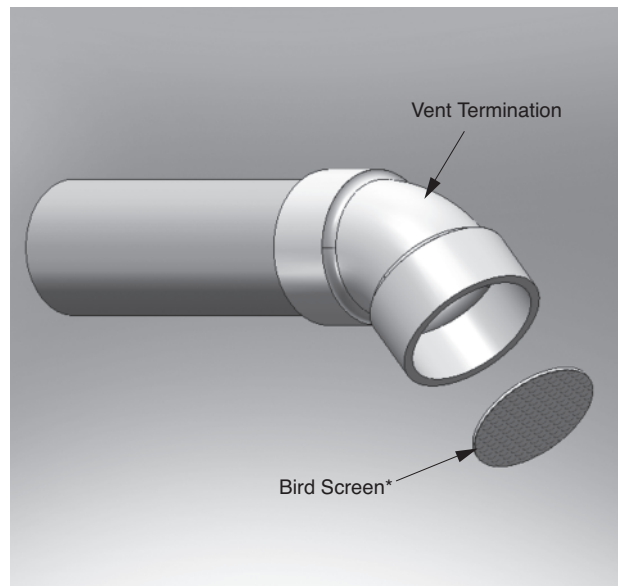

Fig. 12: Horizontal Vent Bird Screen Installation with 45° Elbow Termination
1. The vent and combustion air terminations must include a factory supplied "bird screen" installed as shown in Figs. 12 through 14.